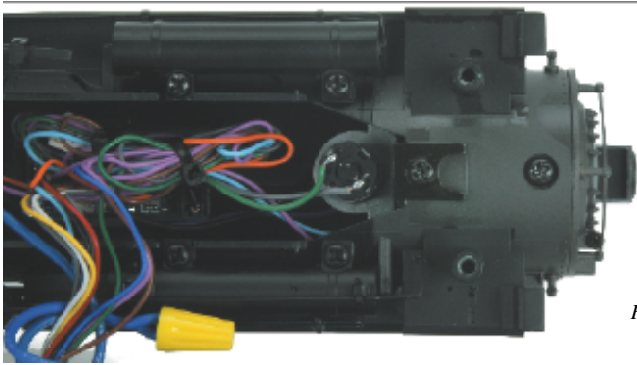

Figure 8
2. Remove the screw attaching the smokebox front and pull the smokebox front from the boiler shell. (Fig 8)